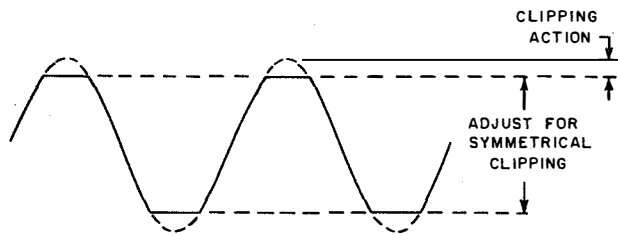

Figure 7-60. Symmetrical Clipping Waveform
Step 6. Adjust GAIN TO CLIP control (M) until a small amount of clipping of the 1,000-cps signal appears on the oscilloscope. This is evidenced by flattening of the peaks of the 1,000-cps sine wave.
Step 7. Adjust CLIPPER SYM. control for symmetrical clipping on top and bottom of the sine wave, figure 7-60. Readjust control (M) as necessary to maintain the desired signal amplitude.
2. GAIN TO CLIP (M) AND SQUELCH TRIG. (L) CONTROLS.—The GAIN TO CLIP (M) con-
trol is a front panel control knob and its adjustment is a function of operation. Section 4 indicates the method for proper adjustment of this control. It should provide clipping action as indicated in figure 7-60. SQUELCH TRIG. (L) control is also a front panel control knob adjusted as a function of operation. Setting this control adjusts the speech signals to noise level ratio during pauses in speech. Refer to Section 4 for the procedure of adjusting this control during operation.